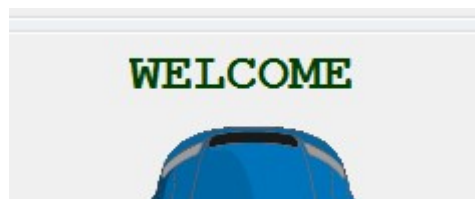

Figure 3.19: KES Demonstrator: Key Fob Enters Welcome Range
8. **Welcome/Farewell Feature:** When the Key Fob enters the pre-configured Welcome range (determined by RSSI), the Welcome message is displayed, see Figure 3.19.